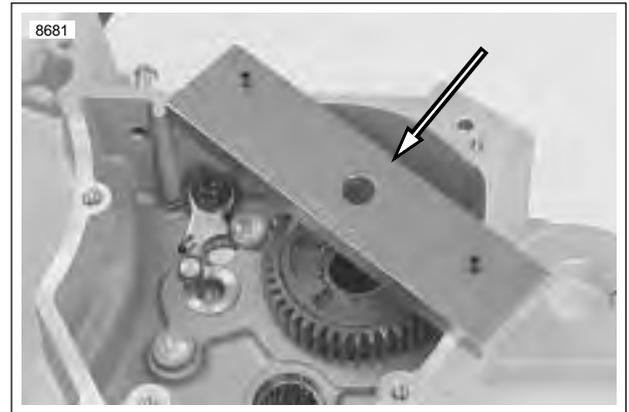

Figure 6-76. Bearing Remover Cross Plate Mounting (Part No. B-45847)
1. See Figure 6-76. Locate MAIN DRIVE GEAR REMOVER AND INSTALLER (Part No. HD-35316-A). Place cross-plate pins in appropriate holes in transmission case.